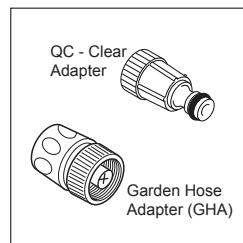

Fig. 10
- The garden hose adapter (GHA) and quick connect filter. Are made up of two separate pieces. (1) A clear plastic adapter with a screen filter (about 3 inches long) and (2) a blue/grey/orange collar attachment (Fig. 10).